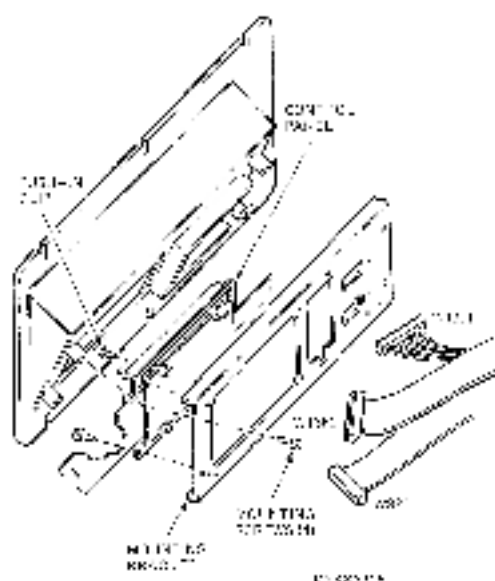

Figure 4-17 Control Panel Assembly
2. Disconnect the WSP1, WSP2, and W13.11 cable connectors from the control panel (Figure 4-17).
1. Reconnect the small connector to the indicator panel. Align the mounting holes in the control panel with the holes in the bracket and secure the control panel with the four push-in clips (Figure 4-17).